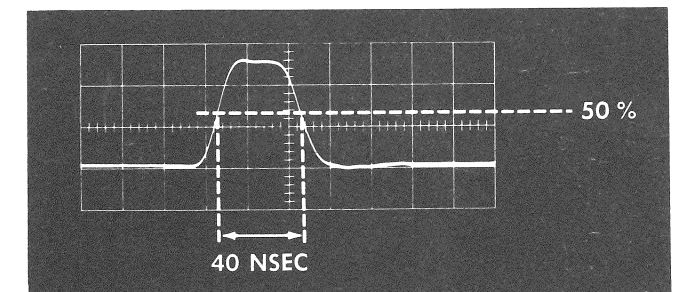

Fig. 6-5. Illustrating the method of determining the time duration of the pulse using a Type 540-Series Oscilloscope with a Type K or L Unit.
- (a) Observe the display to check that the pulse does have a time duration of 40 nsec at the 50% level (see Fig. 6-5), a flat top, an amplitude of +50 volts, and is free of reflections just after the pulse.